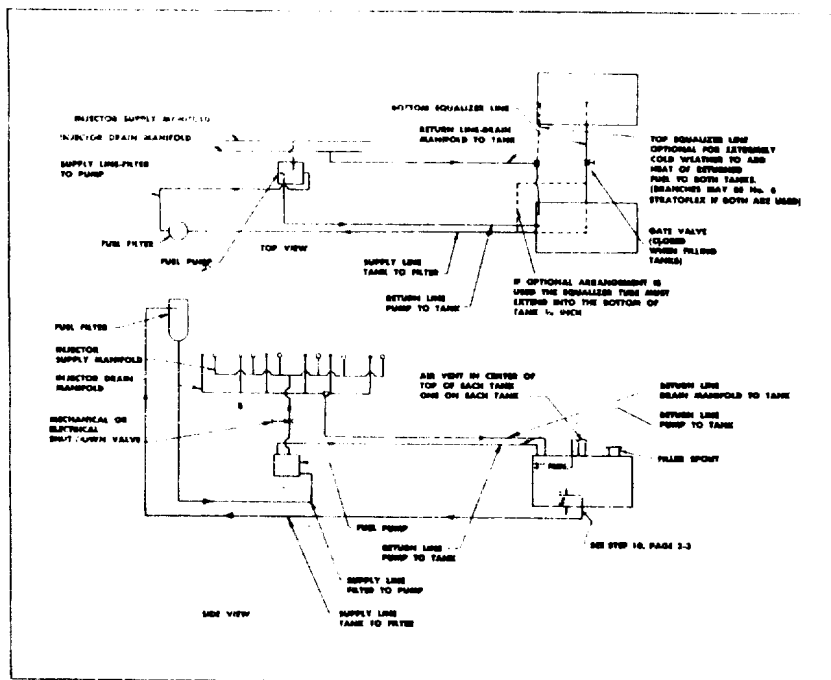

Figure 2-9. Installation with side tanks
2. A line must lead from the drain manifold to the top of the fuel supply tank. This must be No. 8 Stratoflex or equivalent hose. See "Fuel Supply Tank" and Figs. 2-9, 2-10, 2-11 and 2-12.
The following tank and piping instructions refer to Figures 2-9, 2-10, 2-11, 2-12, 2-13, and 2-14 shown on succeeding pages: